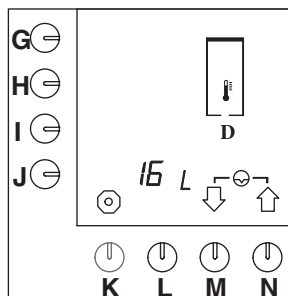

Fig. 17 Day counter hot water system
- Fig.17 appears on the display.